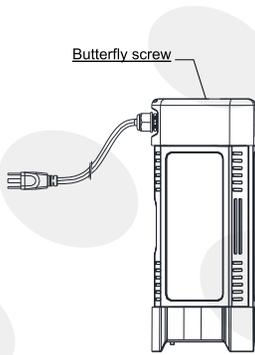

Figure 5
1. Screw the round pipe into lamp base. (Figure 5)